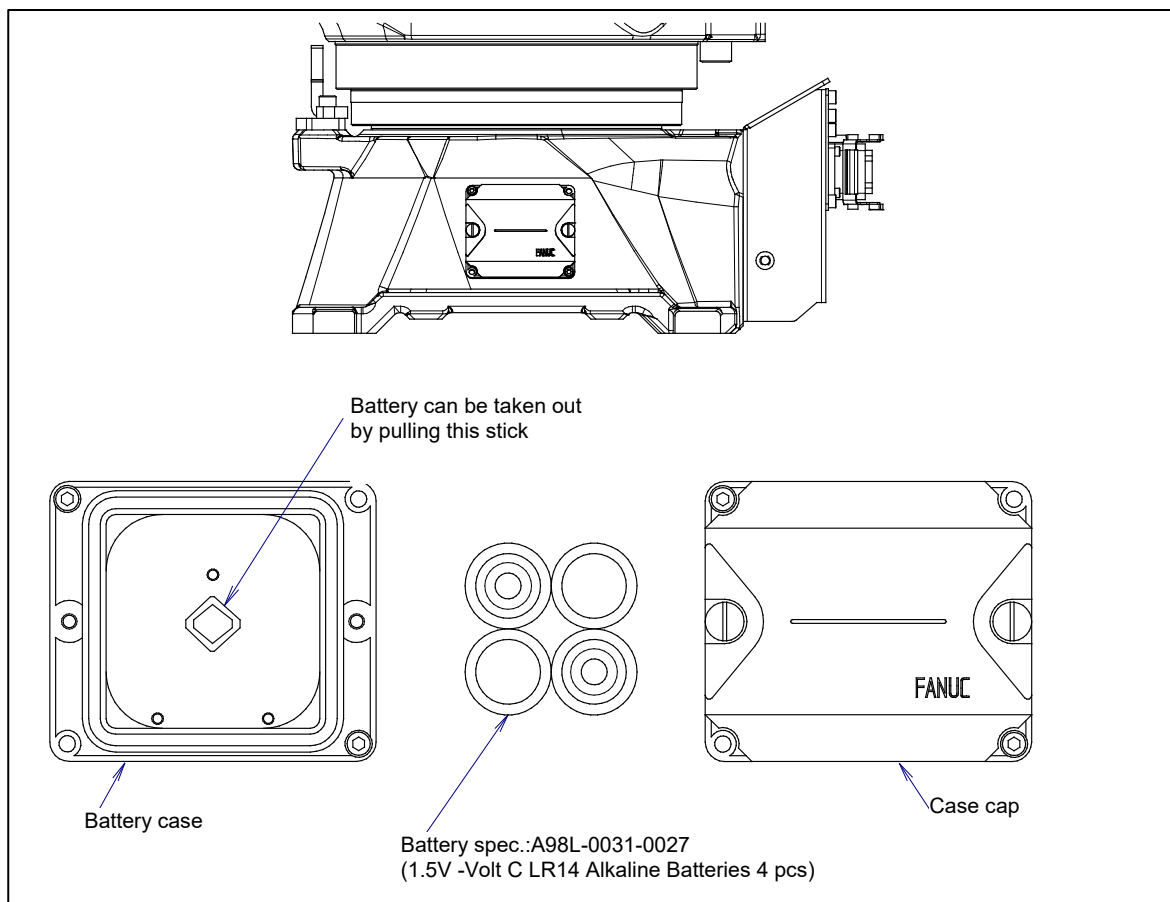

Fig. 7.3.1 (a) Replacing the battery
- 2 Remove the battery case cap. (Fig. 7.3.1 (a)) If it cannot be removed, tap it on its side with a plastic hammer to loosen the cap before you remove it.